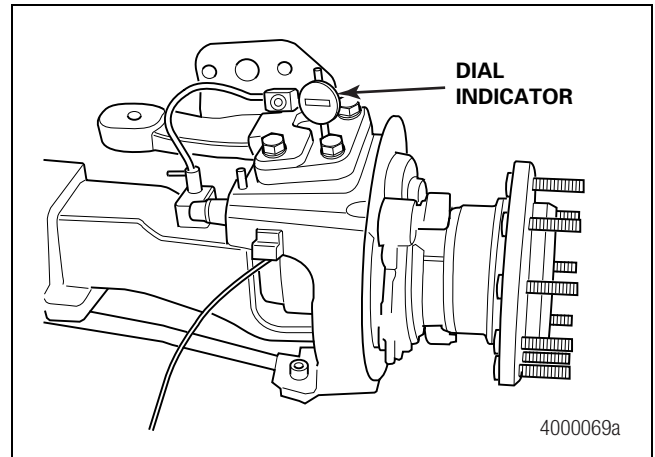

Figure 5.6
- D. Place a jack and a wood block, with a hole that allows clearance for the lower grease fitting, under the lower king pin cap area. Figure 5.6.
4. For medium-duty axles, the reading must be 0.001-0.065-inch (0.025-1.650 mm) for new axles and 0.001-0.075-inch (0.025-1.905 mm) for axles in service. For heavy-duty axles, the reading must be 0.005-0.015-inch (0.127-0.381 mm). Figure 5.6.